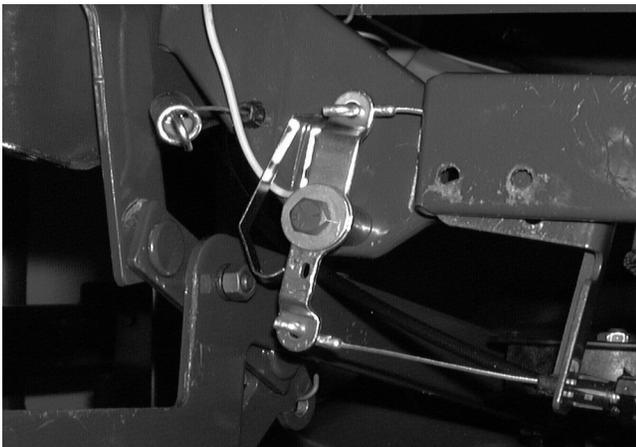

FIGURE 6.
**NOTE:** During reinstallation remove the cotter pin securing the shift lever assembly to the transmission. Secure the shift lever assembly to the frame before reinstalling the transmission. See figure 6.